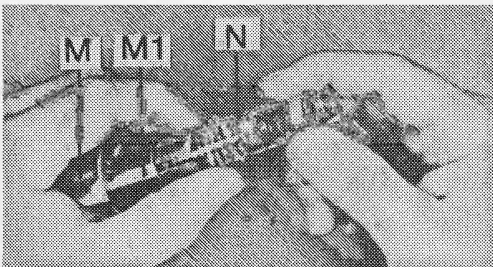

Fig. 10-33.
1. Refer to Fig. 10-33. Grasp the wafer keyway unit (N) in your right hand. In your left hand, hold the outside knob (M) with the slot (M1) facing you. Insert the wafer keyway unit (N) into the outside knob spindle